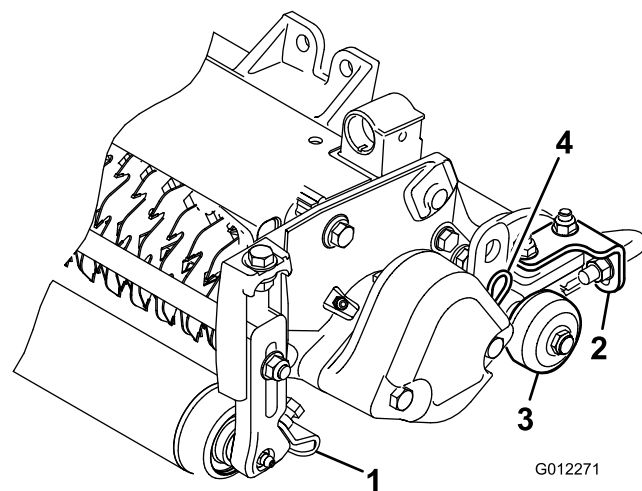

Figure 6
1. Loosen the flange nuts that secure the roller scrapers (Figure 6).
Before the verticutters are lowered to the shop floor or removed from the traction unit, lower the transport rollers (Figure 6) to protect the blades from hard surface contact.